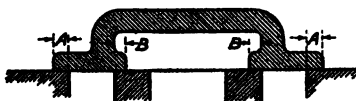
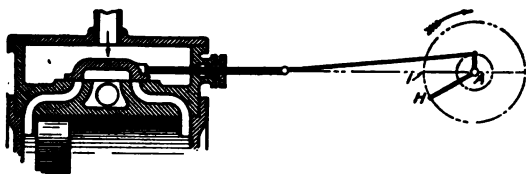

Fig. 17. Section of Slide Valve, Showing Steam and Exhaust Laps
Fig. 18. Elementary Slide Valve, Showing Effect of Adding Lap
**Effect of Adding Steam Lap.** To produce a short cut-off, what is known as outside lap or steam lap is added to the edges of the slide valve *A A*, Fig. 17. To produce compression inside exhaust lap *B B* is also added. Figs. 18 and 19 show how the valve mechanism is affected by these changes. In
Fig. 18 the piston is about to begin its stroke, but the valve is no longer in mid-position. Instead, the eccentric has had to be advanced through an angle, known as the "angle of advance", in order